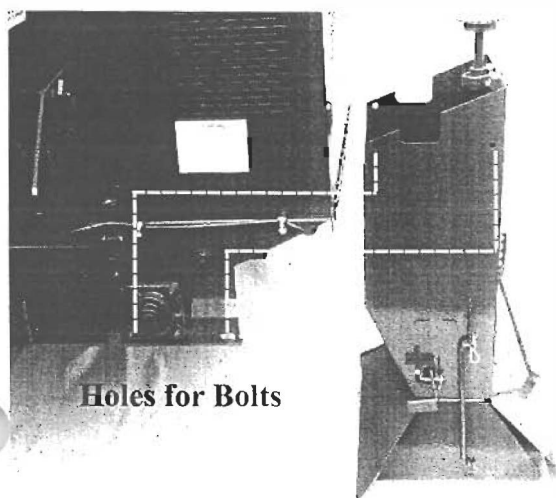

Figure 9
1. Loosely attach the chute assembly using four 3/8" x 3/4" bolts, flat washers, lock washers, and nuts with the heads of the bolts on the inside of the chute. See Figure 9.